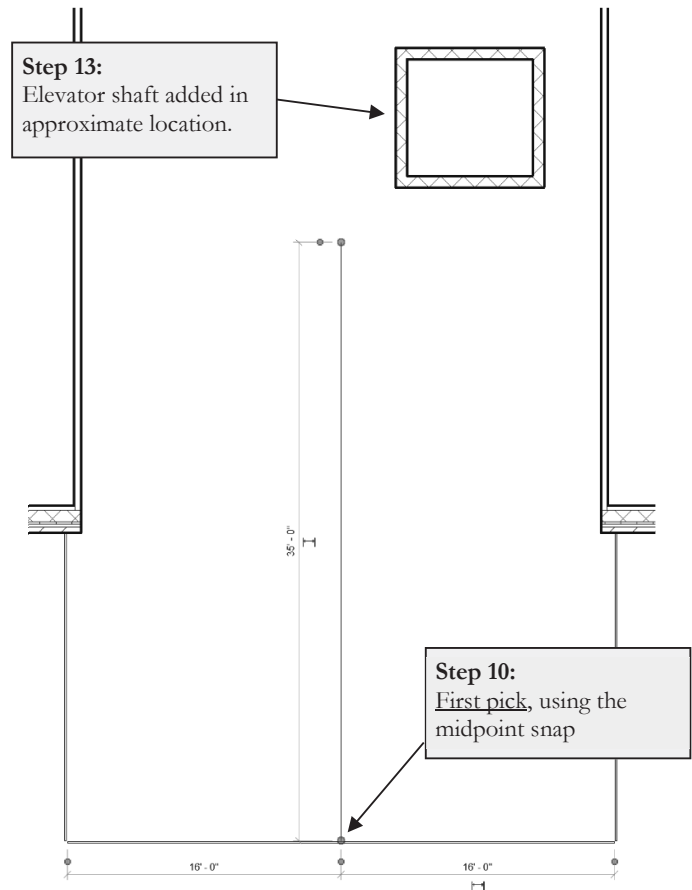

FIGURE 3-3.3 Temp. Detail Line
10. Draw the "vertical" line, **35'-0"** long, as shown in Figure 3-3.3; be sure to snap to the *Midpoint* of the atrium wall as your first point.